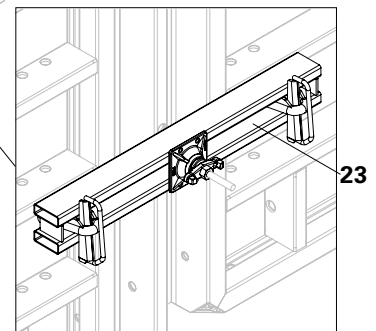

Fig. A11.02b
The bottom Compensation Waler TAR 85 (23) must be mounted in the strut with the hooks from below if a TRIO Panel is installed on the opposite side, e.g. Multi Panel TRM 72. (Fig. A11.02b)